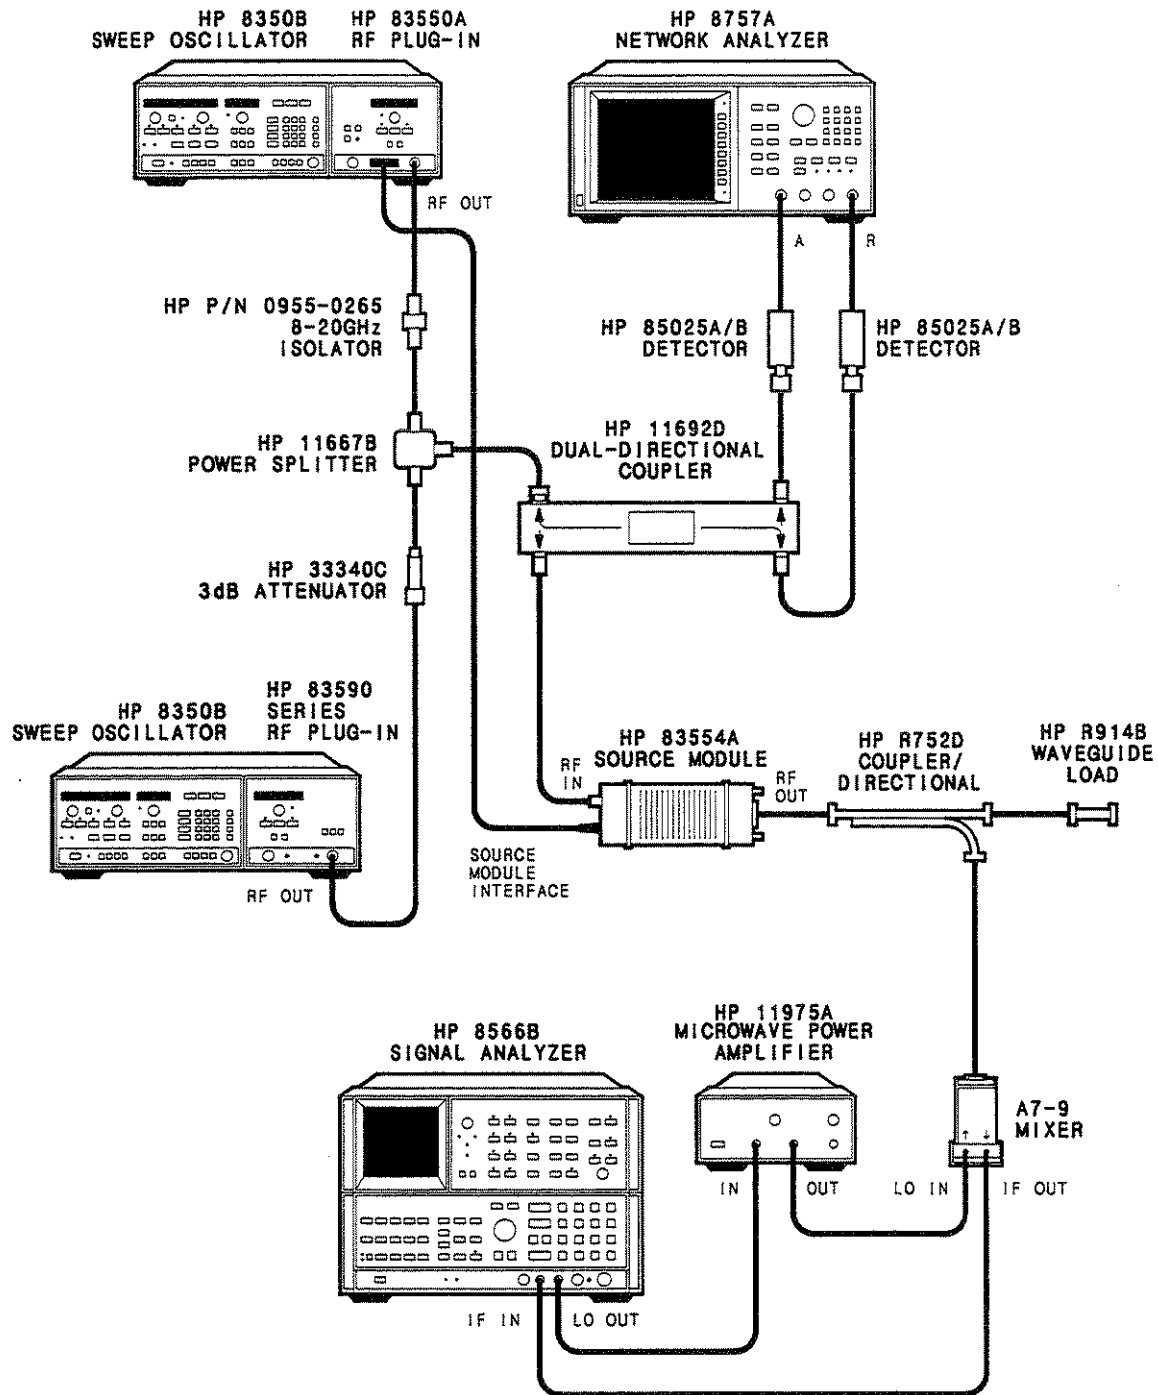

Figure 3-8. Harmonics Spurious Test Setup
1. Connect the equipment as shown in in Figure 3-8.
Because the test configuration in Figure 3-8 specifies that the external mixer be connected to the coupled arm of a 20 dB directional coupler, the coupled power must also be taken into account when calculating reference level offset. The new equation will proceed as follows: